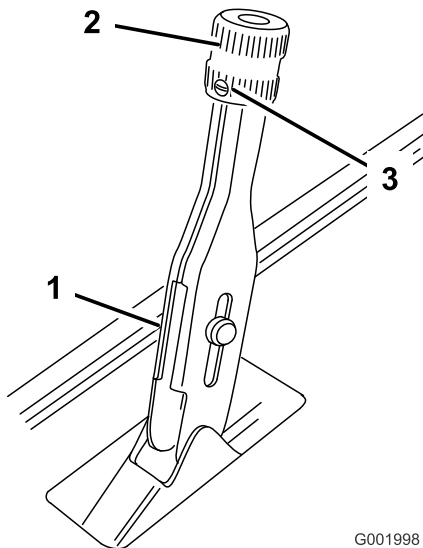

Figure 58
1. Loosen the set screw securing the knob to the parking brake lever (Figure 58).